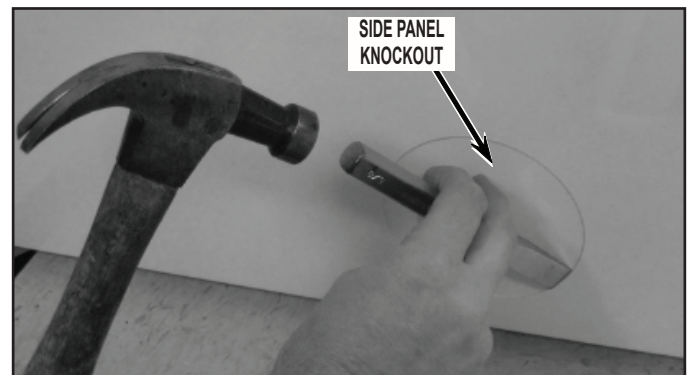

FIGURE 32
- To remove the rearward right side knockout by using either a 1/8" drill bit and drill or a cold chisel and hammer. Remove the six (6) knockout retaining tabs around the edge. See *Figure 32*.